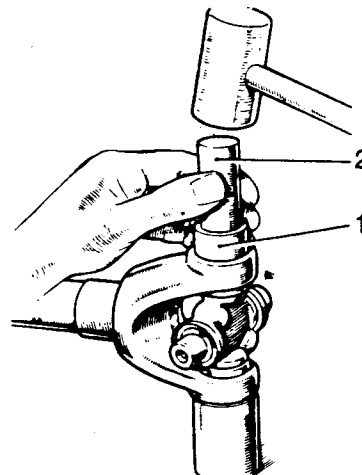

Fig J1.45
- (1) Refer to Fig J1.45. Assemble the needle rollers in the bearing races (1), if necessary using a smear of vaseline to retain them in place.
- (2) Insert the journal in the stub shaft yoke holes, and using a brass drift (2) slightly smaller in diameter than the hole in the yoke, lightly tap the first bearing into position, and retain with a circlip.
- (3) Repeat the foregoing operations for the other three bearings.
- (4) Ensure that all four circlips are firmly located in their grooves.
- (5) Check that the universal joint moves freely. If the joint appears to bind, hold one shaft so that the joint hangs free and tap the yoke ears lightly with a mallet.
- (6) Replace the half shaft (see Sub-sub-section J1.4, Chapter 5).